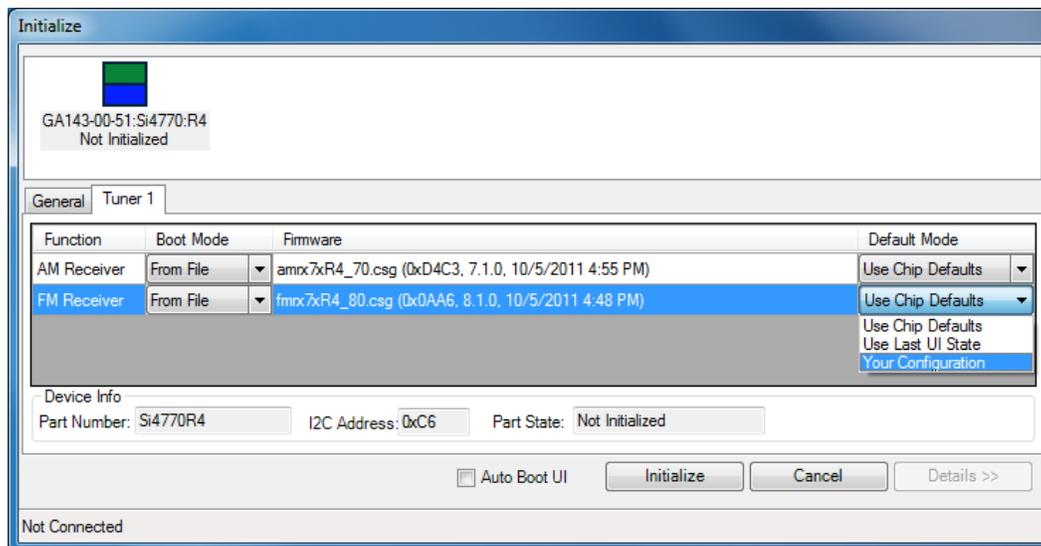

Figure 8. Default Mode Selection
- h. **Default Mode:** UI default mode allows the selection of the UI configuration as a default for the part number, last used UI state, or you can select a configuration previously saved (see Figure 8). For saving a UI configuration, see Section 5.1.